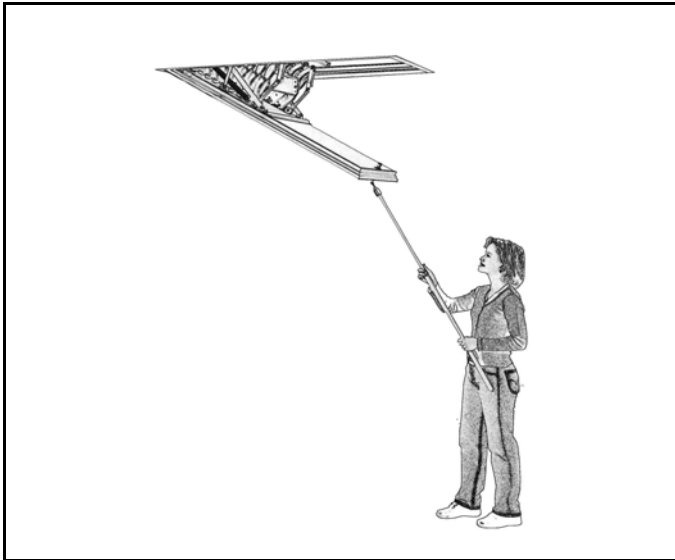

Figure 8
1. Insert hook provided into receptacle on door face and pull door down until fully open. Figures 8 and 9. (Door should stay in place at full open position.)